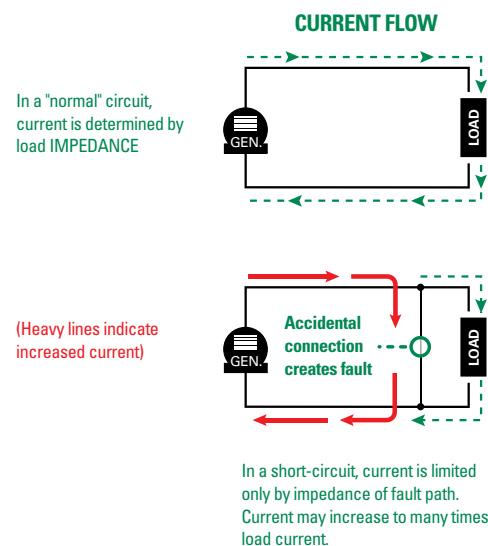

Figure 16 – Current Flow in Normal and Short Circuit Situations
**Short-Circuit** (See *Figure 16*) – A current flowing outside its normal path, caused by a breakdown of insulation or by faulty equipment connections. In a short-circuit, current bypasses the normal load. Current is determined by the system impedance (AC resistance) rather than the load impedance. Short-circuit currents may vary from fractions of an ampere to 200,000 amperes or more.